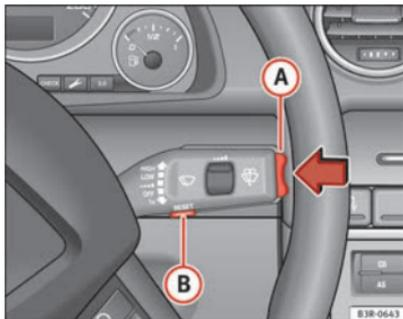

Fig. 59 Windscreen wiper lever: Function selector switch
- Now press and hold the Reset button on the windscreen wiper lever \textcircled{B} \Rightarrow Fig. 59 until the crossed out warning symbol for speed limit 2 appears on the display.
- To change the speed limit, press the top or bottom of the function selector switch on the windscreen wiper lever \textcircled{A} \Rightarrow Fig. 59. The speed limit displayed will then increase or decrease by 10 km/h at a time.